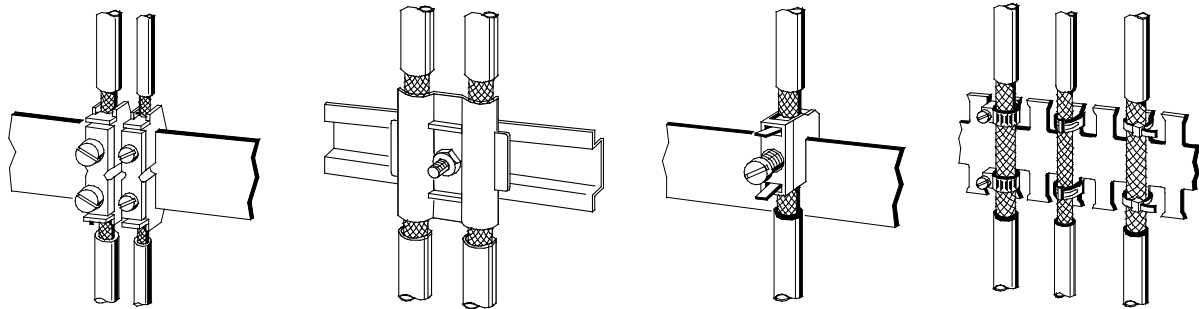

Figure 3-43. Fixing Shielded Cables with Various Types of Cable Clamps
- Use metal cable clamps for fixing the braided shield. The clamps have to enclose the shield over a large area and make good contact (see Figure 3-43).